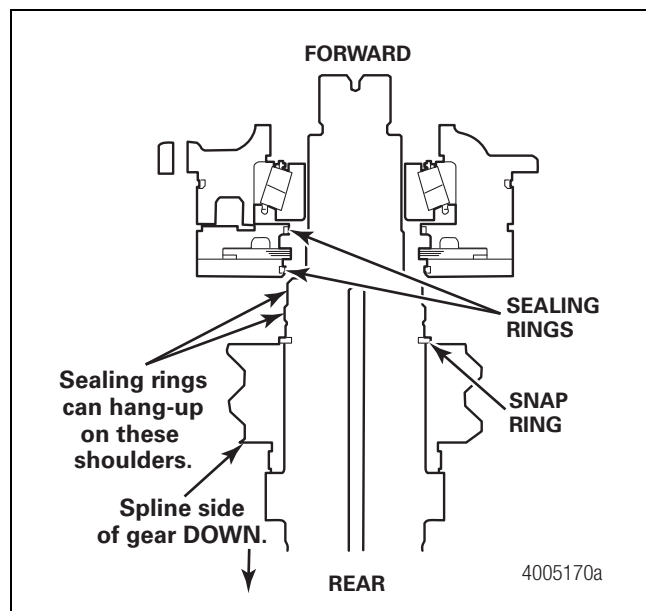

Figure 6.9
- E. **MTC-4208X/XP and MTC-4210X/XP transfer cases only:** Lubricate the sealing rings on the inside diameter of the pump and the shaft journal adjacent to the pump splines. Figure 6.9.